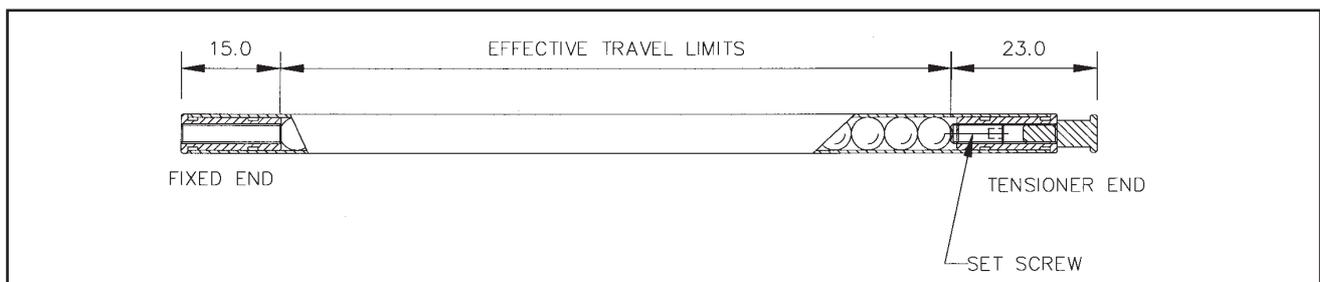

Figure 5.7 - The Microsyn Scale
- (A) Erroneous readings will occur if the Microsyn Reader Head is allowed to travel beyond Effective Travel Limits. (Refer to Figure 5.7)
- (B) The pre-load on the balls are factory set via the set screw at the tensioner end. Do not tamper with of adjust the set screw as this will alter the calibration and accuracy specification of the scale and void the warranty.
- (C) When mounting scales in the vertical plane the tensioner end should be positioned at the top.